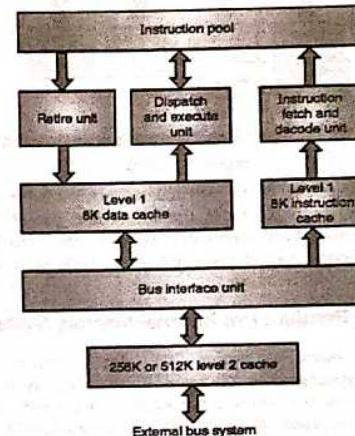

Fig. 14.1.1 : Pentium Pro Internal structure
- Earlier microprocessors contained an execution unit and a bus interface unit and a cache buffering system. The structure is modified in later microprocessors, but the modifications were some additional stages as shown in the Fig. 14.1.1.
- The L2 cache is connected to BIU, which in turn provides access to the L1 cache. The L1 code cache provides the instructions to the Instruction fetch and decode unit. The instructions are then put into the instruction pool as shown in the Fig. 14.1.1.